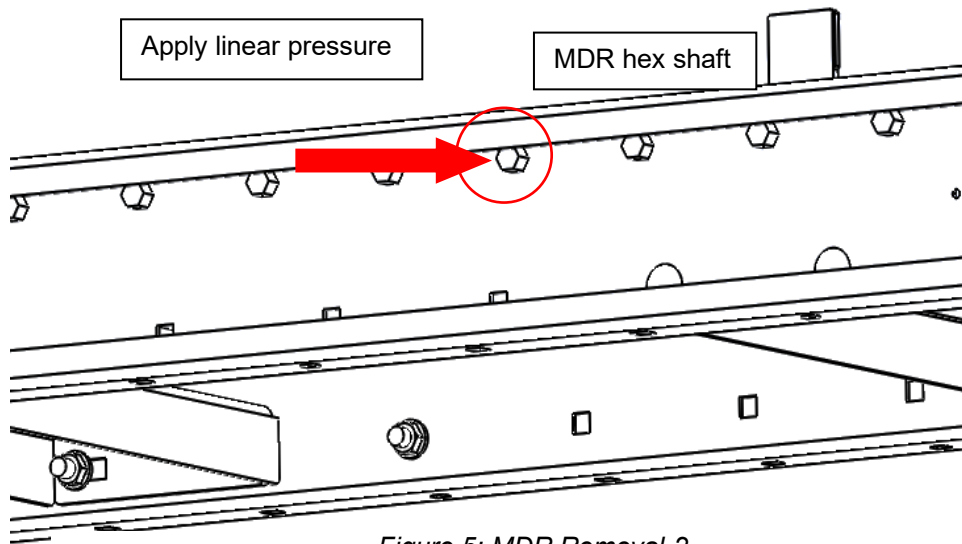

Figure 5: MDR Removal-2
5. Apply pressure on the end of the hex shaft opposite the cable using a small diameter punch or similar tool until the shaft clears the frame. Be careful NOT to apply a side load to the hex shaft. Although the side frame pictured in Figure 5 is that of a straight conveyor bed, the method used for removal of MDRs is the same as that of a curved conveyor bed.
6. Provide upward force on the roller body until the hex is sitting above the side frame. Although the side frame and rollers pictured in Figure 5 are that of a straight conveyor bed, the method used for removal of MDRs is the same as that of a curved conveyor bed. (A putty knife or other flat surface tool is recommended to be placed between the hex shaft and the inside of the frame. This will help protect the paint on the side frame.)
3. Apply pressure on the end of the hex shaft opposite the wiring using a small diameter punch or similar tool until the shaft clears the frame. Be careful NOT to apply a side load to the hex shaft. Refer to Figure 5.